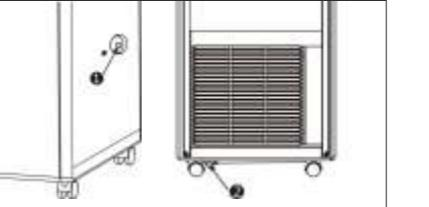

Fig. 10
When the condensate collection tank is filled up, water needs to be drained, otherwise the unit will not operate. Condensate should be drained by opening the lower plug at the device's base (Fig. 10 pos. 2).
4. Take the hose out to the drainage system to remove condensate; A hole designed for continuous condensate removal in the center of the device (Fig. 10 pos. 1) can be used for continuous condensate removal under conditions of increased humidity inside a room.
- When the unit is in cooling mode, it is not necessary to install the condensate drainage pipe since condensate evaporates automatically. Make sure that when the unit is operating, the rubber plug of the drainage hose is securely fixed (see Fig. 10).
- In heating mode, remove the rubber plug (2) of the drainage hose (Fig. 10), install the respective drainage hose to improve heating efficiency.
- In dehumidification mode, remove the rubber plug (2) of the drainage hose, install the respective drainage hose. Disconnect the air outlet hose, connect the drainage hose to the drainage hole and drain water from the unit to ensure maximum dehumidification efficiency.
- To resume the operation, remove the rubber plug (2) of the drainage hose to drain water at first. After water is drained...